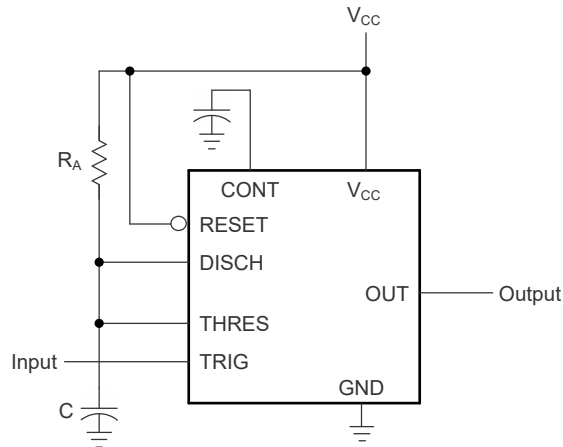

Figure 6-2. Circuit for Monostable Operation
- (1) For conditions shown as MIN or MAX, use the appropriate value specified under *Recommended Operating Conditions*.
- (2) Values specified are for a device in a monostable circuit similar to Figure 6-2, with the following component values: $R_A = 2k\Omega$ to $100k\Omega$, $C = 0.1\mu F$.
For monostable operation, Figure 6-2 shows how to connect any of these timers. If the output is low, application of a negative-going pulse to the trigger (TRIG) sets the flip-flop ($\bar{Q}$ goes low), drives the output high, and turns off Q1. Capacitor C is then charged through R_A until the voltage across the capacitor reaches the threshold voltage of the threshold (THRES) input. If TRIG has returned to a high level, the output of the threshold comparator resets the flip-flop ($\bar{Q}$ goes high), drives the output low, and discharges C through Q1.
Figure 6-5 shows that adding a second resistor, R_B , to the circuit of Figure 6-2 and connecting the trigger input to the threshold input causes the timer to self-trigger and run as a multivibrator. Capacitor C charges through R_A and R_B and then discharges through R_B only. Therefore, the duty cycle is controlled by the values of R_A and R_B .
By adjusting the length of the timing cycle, the basic circuit of Figure 6-2 can be made to operate as a frequency divider. Figure 6-8 shows a divide-by-three circuit that makes use of the fact that retriggering cannot occur during the timing cycle.
See Figure 6-2